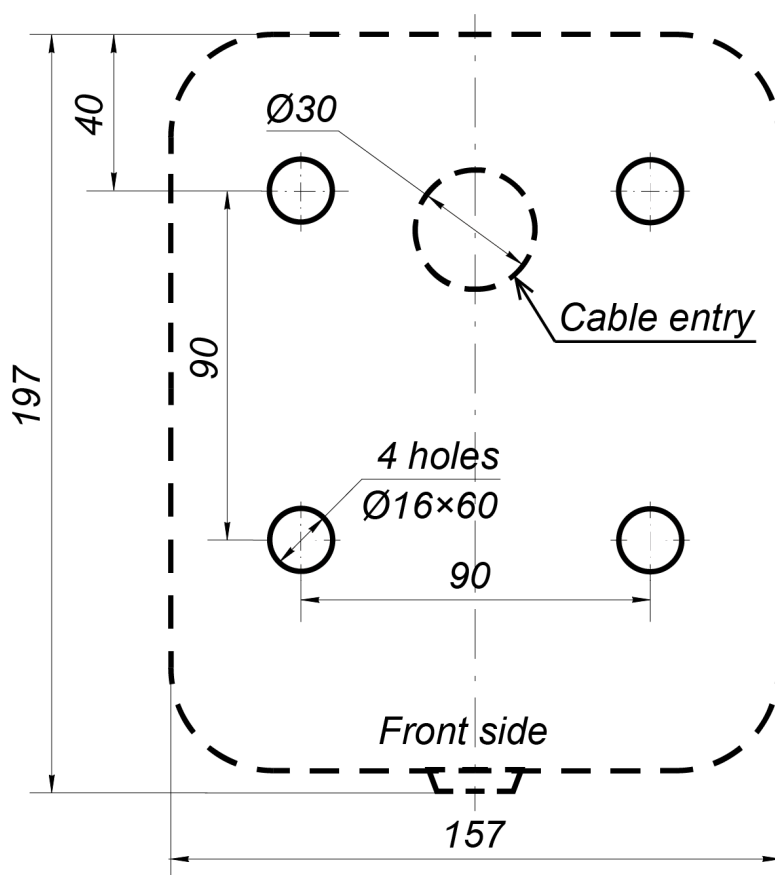

Figure 5. Hole pattern for mounting of the housing
2. Mark and prepare mounting holes for anchor bolt sleeves on the installation surface according to Figure 5.
6. Remove the container (3) of the card capture reader in the order described in section 9.4.